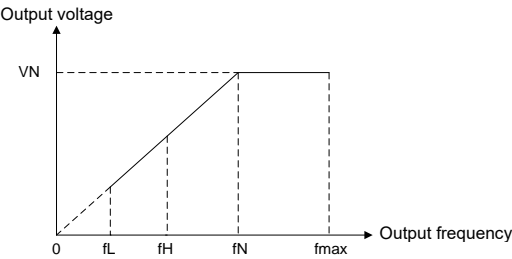

Fig. 6-8
B0-09 upper limit frequency is the user-defined maximum allowable run frequency and represented by fH in Fig. 6-8.
B0-10 lower limit frequency is user-defined minimum allowable run frequency and marked with fL in Fig. 6-8. In Fig. 6-8, fN represents rated frequency of motor while VN means the rated voltage of motor.
- The rank relation between maximum frequency, upper limit frequency and lower limit frequency is shown as Fig. 6-8.